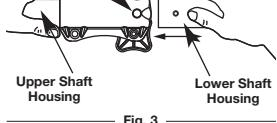

Fig. 3
- While firmly holding the upper shaft housing, pull the add-on out of the coupler (Fig. 3).
- While firmly holding the add-on, push it straight into the coupler (Fig. 3).